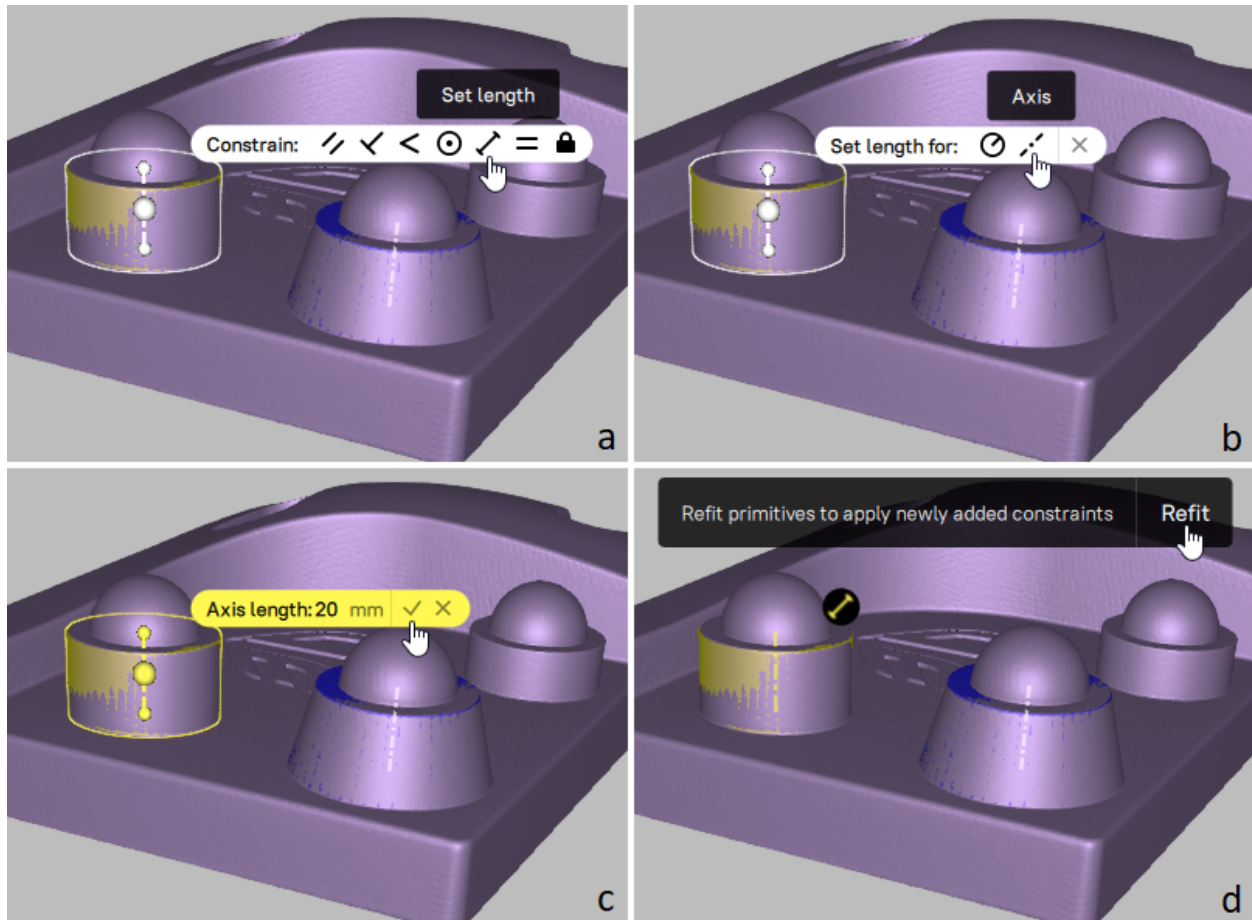
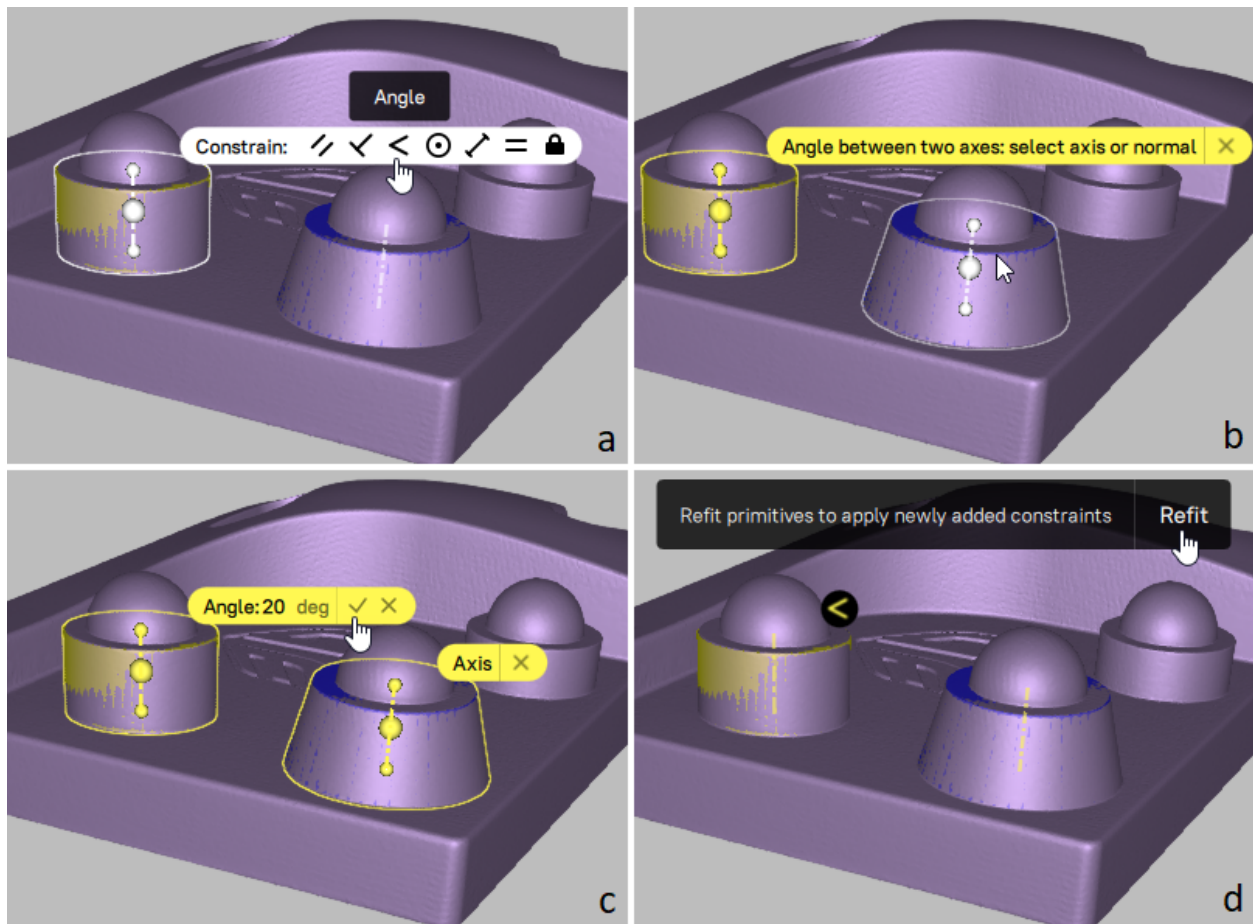
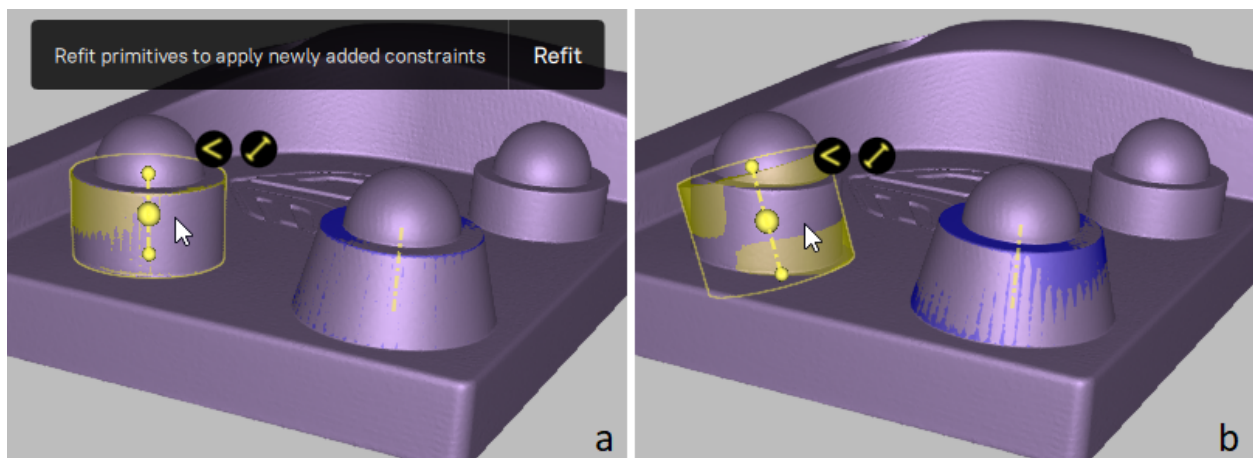

Figure 183: Example for specifying CAD primitive constraints: setting the height of a cylinder.
Figure 184: Example for specifying CAD primitive constraints: setting the requirement that the axes of two primitives are at a given angle to each other.
Figure 185: Example for applying CAD primitive constraints.
2. Click the desired primitive. The *Constrain* pop-up toolbar appears with icons for the applicable constraint types (see an example of such a toolbar for the case of a cylinder in Figure 183, a and Figure 184, a).
- For , click one of the icons of primitive sizes on an additional pop-up tool bar if it appears (see an example in Figure 183, b). Specify the desired primitive size value and click  on the appropriate pop-up toolbar (see Figure 183, c).
- For , , , and , click all other primitives to be involved into the new relation (see an example in Figure 184, b). When done, click  on the appropriate pop-up toolbar (see Figure 184, c).
The corresponding constraint icon will be displayed next to each primitive participating in the constraint but no changes to the size or position of the primitives will occur at this point (see examples in Figure 183, d and Figure 184, d). A pop-up toolbar with the *Refit* button will appear at the top of the *3D View* window.
The primitives will be rebuilt to satisfy the specified constraints. Figure 185, b presents the result of applying both constraints illustrated in Figure 183 and Figure 184.